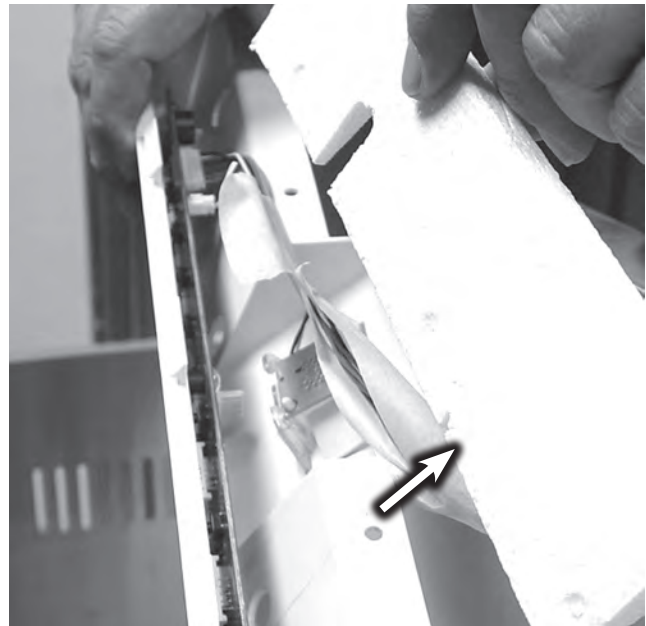

Figure 3
3. Remove the insulation between the housing and the user interface board, see figure 3.